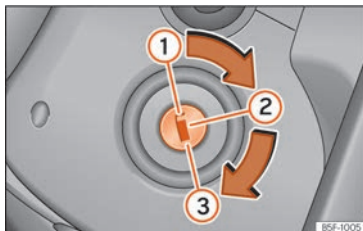

Fig. 216 Ignition key positions.
In this position » **Fig. 216 ①** the ignition and the engine are off and the steering may be locked.
- Turn the ignition key to the starting position » **Fig. 216 ③**.
- Turn the ignition key to position » **Fig. 216**  ②. The warning lamp  will light for engine pre-heating.
- When the lamp turns off, turn the ignition key to position ③ to start the engine. Do not press the accelerator.
- Turn the ignition key to position » Fig. 216 ①.
- Remove the ignition key in position » Fig. 216 ① » ⚠.